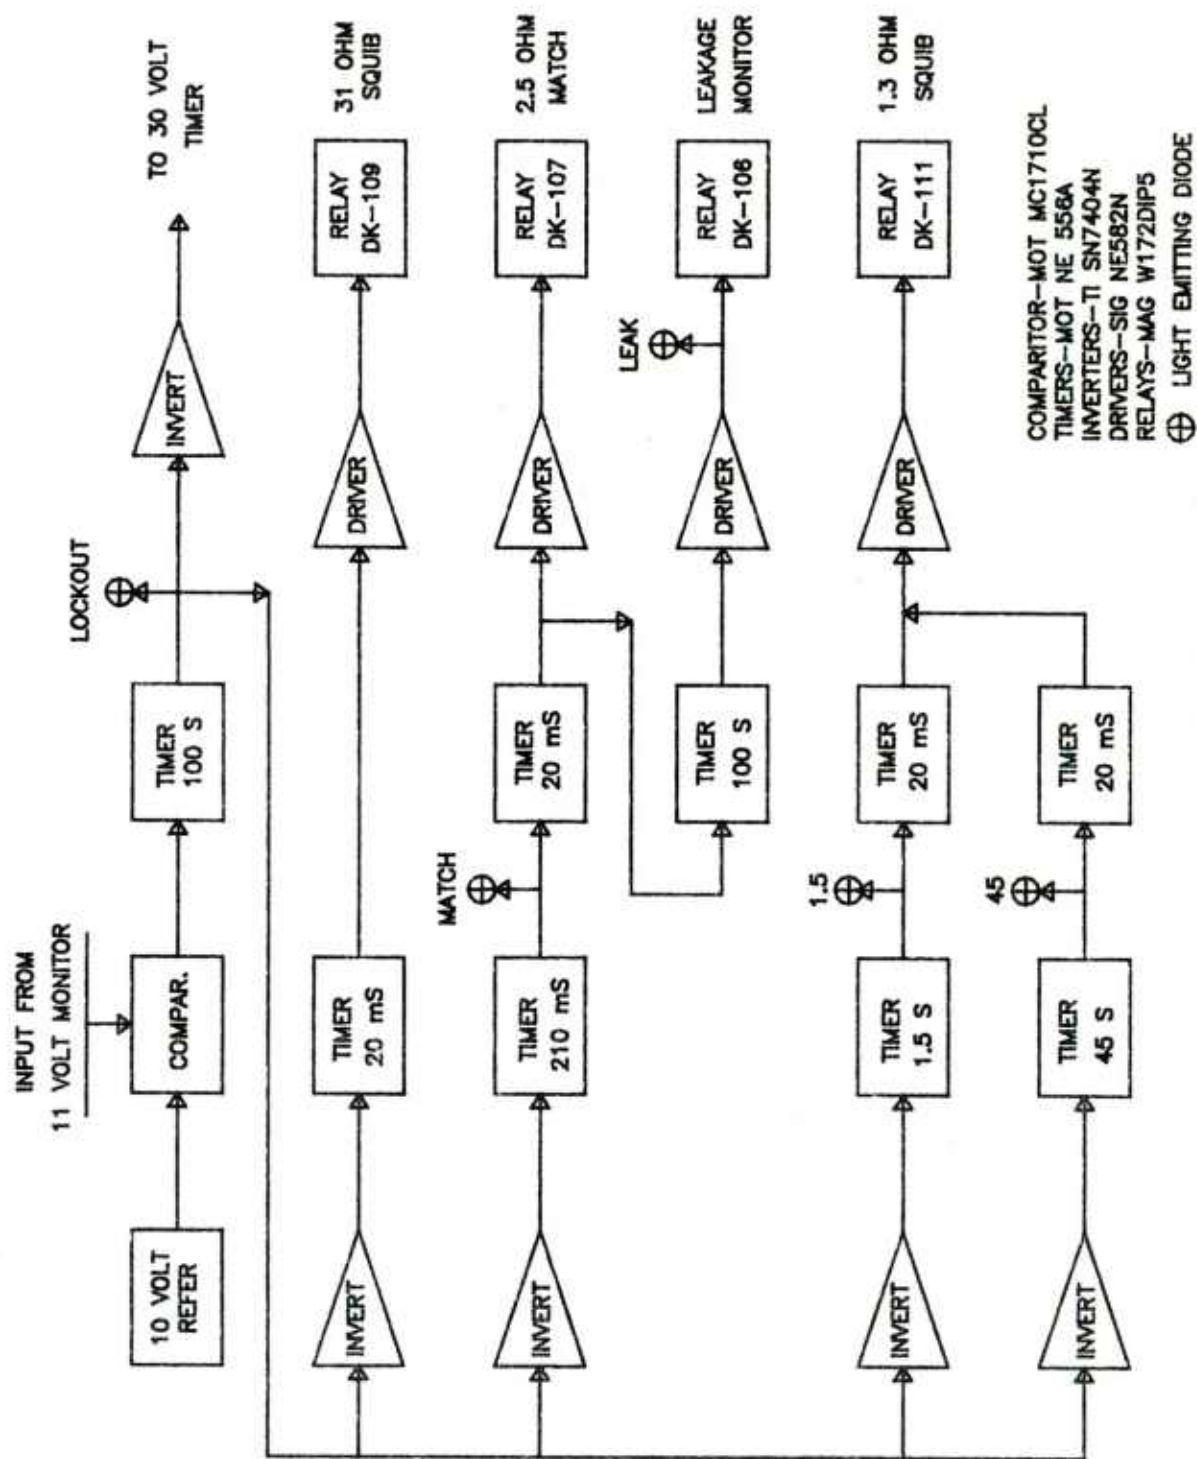

Figure 2. 11-Volt Timing Logic
1. 11-Volt Timer. The function of this unit is to start the timed load sequencing for the complete battery and control the application of the timed loads for the 11-volt section. Reference is made to Figures 2 and 3. As seen in Figure 2, a comparator is used to initiate the timing sequence. After the 11-volt section is shock initiated, a rise in its output voltage triggers the comparator to the "ON" state when this voltage exceeds a 10-volt reference level. The output of the comparator turns on a 100-second timer that is used as a lockout device to prevent any additional false triggers during the 100-second time period of the test. When this lockout timer is triggered, all of the timers following the inverters are triggered. This includes the timers in the 30-volt unit.